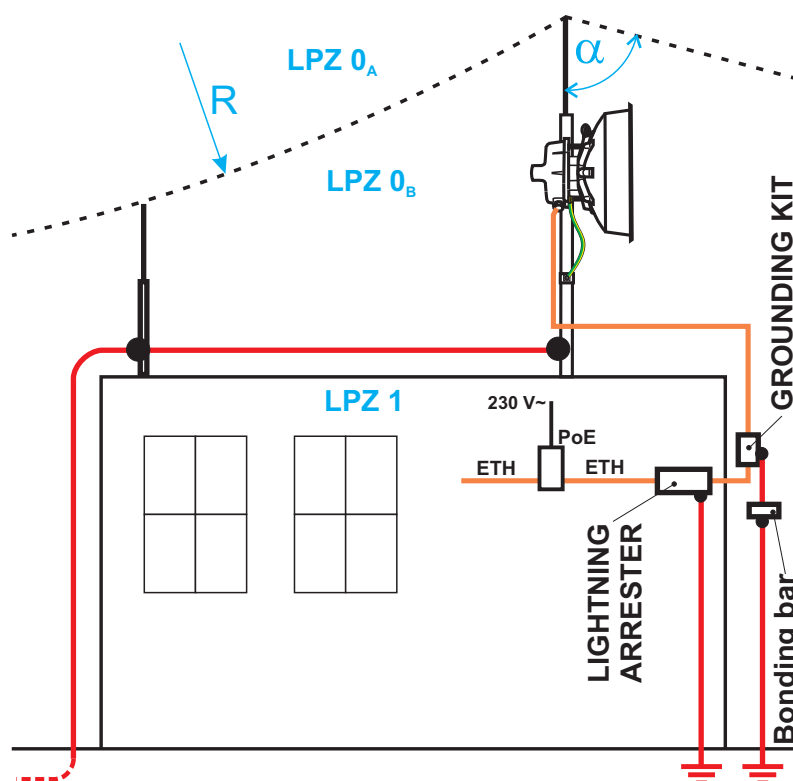

Fig. 5.62: Grounding installation 2
3. If it is not possible to set up conditions of electrical insulation in accordance with article 6.3 we recommend connecting the load-bearing structure at roof level to the external air termination network via an 8mm diameter FeZn conductor and shielding the data cable before entry to the building with a grounding kit and CYA 6 mm² conductor to the bonding bus, and if not already set up then also to the external air termination network, see Fig. 5.62, "Grounding installation 2"